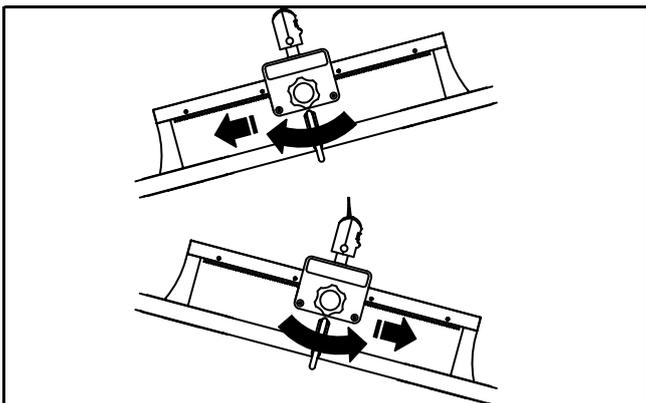

Fig. 10
- 4) For the stretcher frame to be hanging horizontally rotate either knob to move the support bracket towards the heavier end (downward pointing) of the stretcher frame (see Fig. 10).